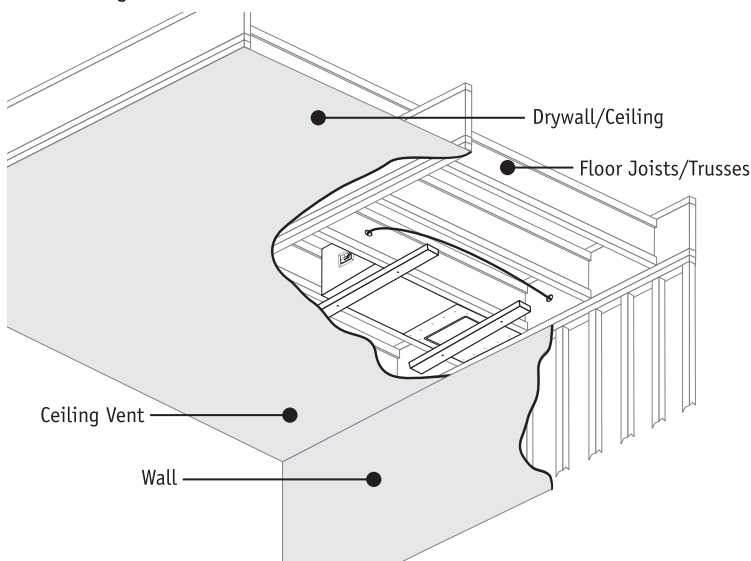

Figure 2
- Place the subwoofer with the baffle end towards the wall in-between two floor joists or trusses. The top of the subwoofer should be flush with the bottom edge of the floor joists or trusses as shown in figure 2.